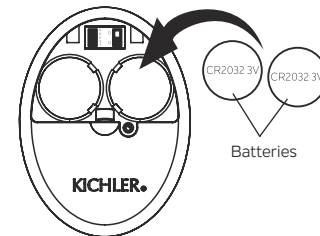

Fig. 26
**Step 2.** To make fan operational, install two 3V CR2032 batteries (included). The batteries should be installed with the positive (+) side up. Replace with CR2032 batteries when necessary. (Fig. 26)